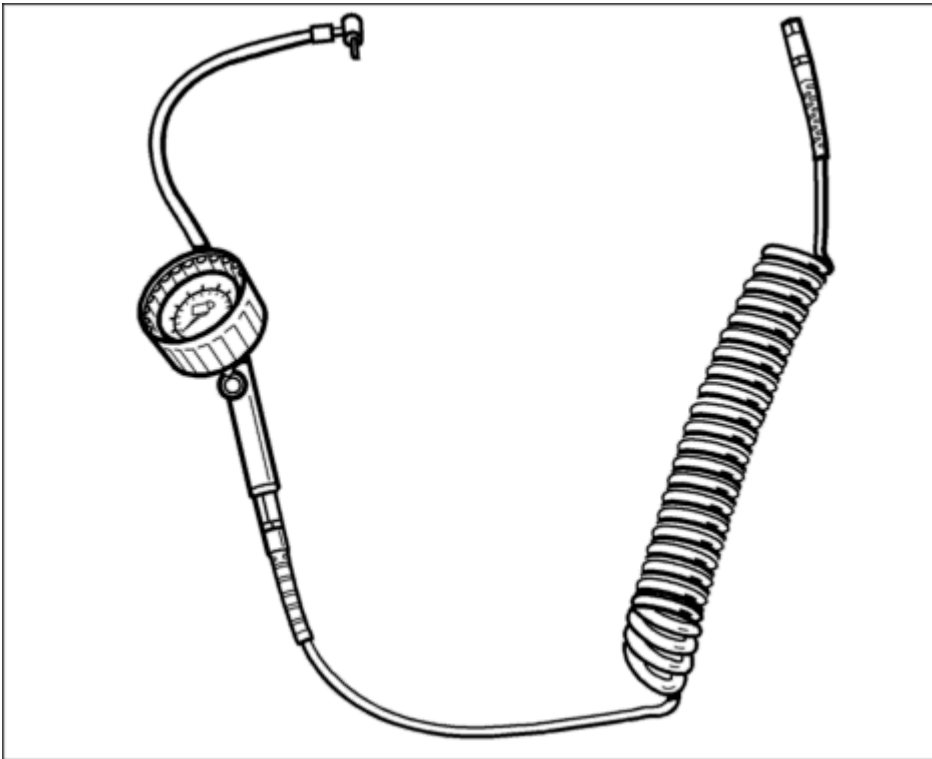

Fig. 6: Air-spring filling unit VAS 6231 00000
4. Fit the filling unit to the pressure gauge unit of the compressed air bottle. See **Fig. 6**.